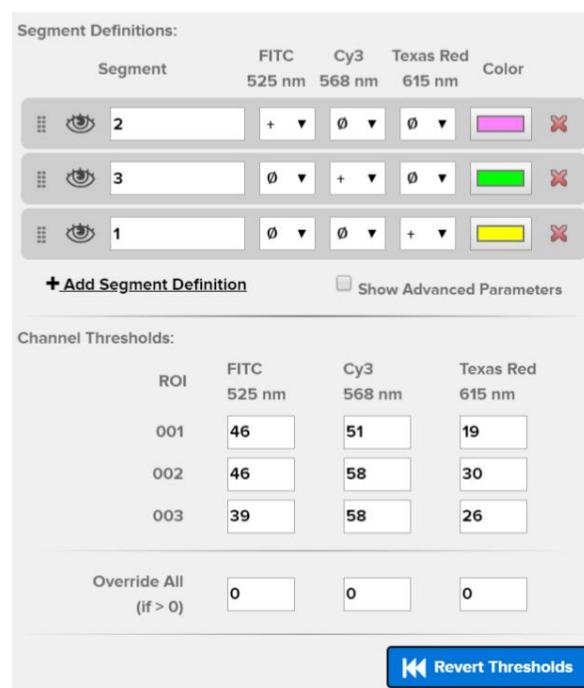

Figure 31: Segments with Channel Thresholds
5. Adjust the value in the **Channel Thresholds** grid (see Figure 31), as needed, to change the sensitivity to the channel you've chosen to assess (the channel designation set to +). Consider starting with one ROI, adjusting the channel thresholds until the desired segment area is selected, then applying that value in **Override All**.